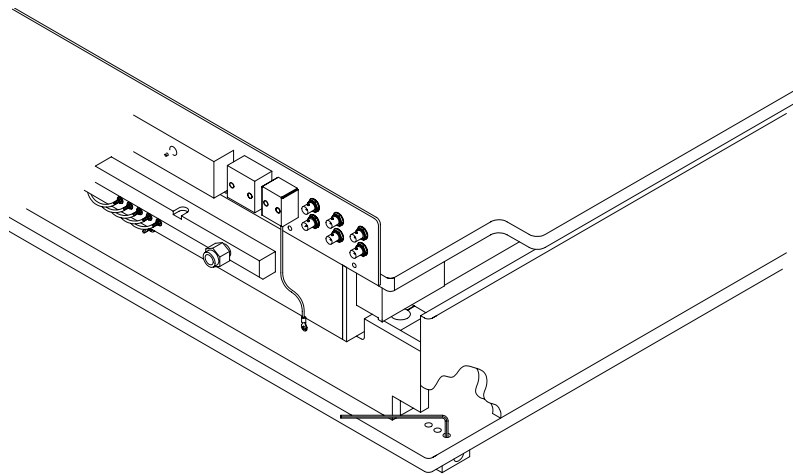

Fig. 47. Factory-set adjustable screw for Z-lever friction (rear of station).
1. Locate the three Z-lever-friction adjustment screws, located near the probe station's back left post. *See figure 47.*